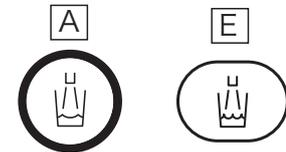

Fig.3-4 Cupfiller Switch
② Cupfiller Switch (Fig.3-4) [A] [E]